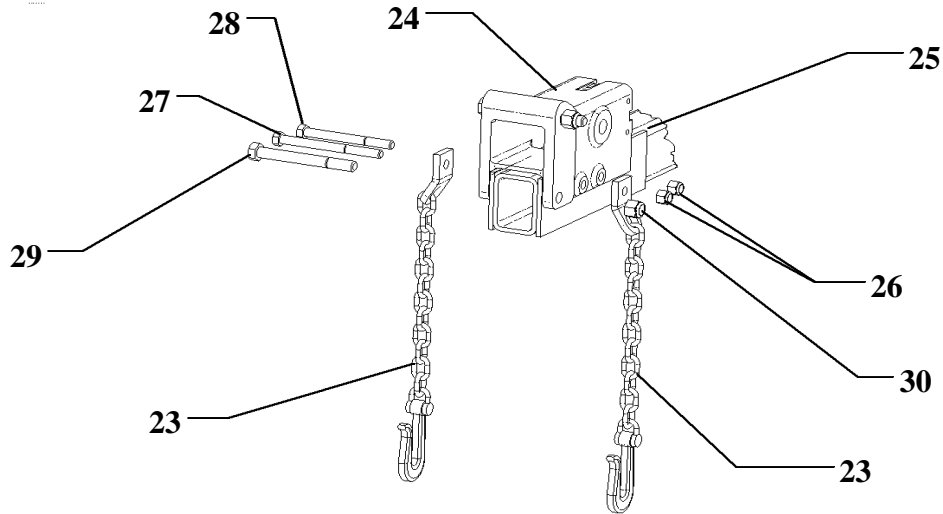

Figure 5
8. Mount cast brake actuator housing P/N 12479795 (24) on drawbar (25), aligning the three mounting-bolt holes. (figure 5)
10. Install two new supplied 1/2" rear housing mounting bolts (27) and (28); and nuts, P/N MS51922-33 (26) (figure 5) insuring that the 5.75 long bolt (27) (figure 5) is in the middle hole with the chains (23) (figure 5) and the 5.00 long bolt (28) (figure 5) is in the rear hole. Hand tighten only enough to hold housing in place while front hole is drilled out.
13. Install 5/8" front mounting bolt (29) and nut (30). (figure 5) Torque all three nuts to 105 lbs. ft.